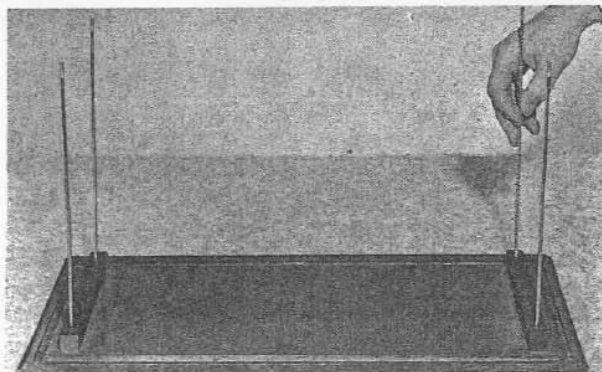

Figure 3
- Place top panel (Figure 3) on rug and turn all four rods into thread inserts as far as they will go with finger pressure. From this point, until assembly is completed, the unit will remain upside-down on the rug. Do not confuse the top panel, which is on the rug, with the bottom panel which is the last to be installed.